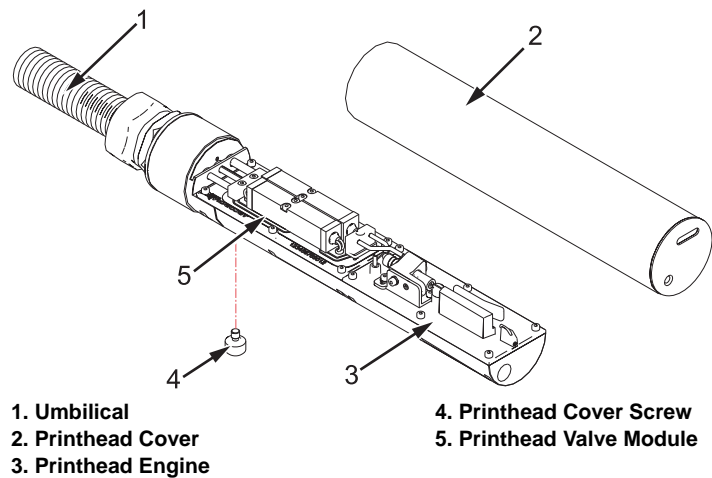

Figure 4-9: Printhead Cover Removed (Videojet 1220)
- 7 Make sure that the ink core manifold is connected to the ink core module correctly (see Figure 4-9).